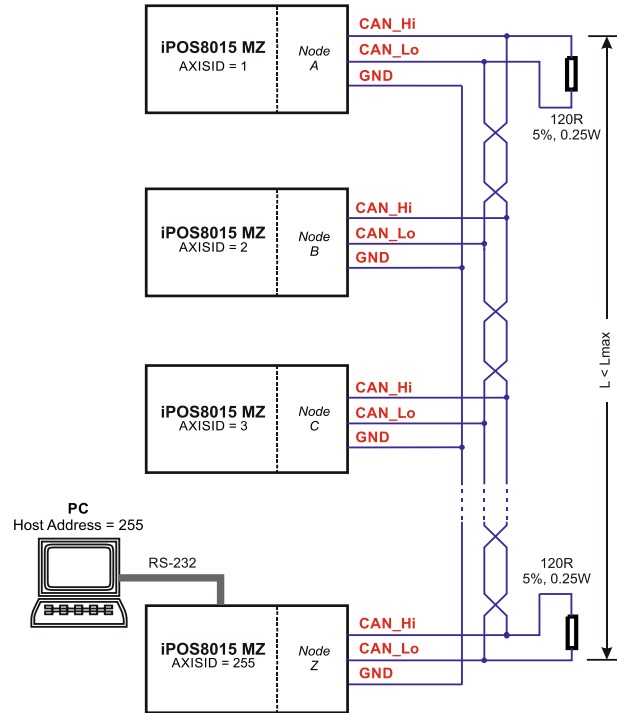

Figure 13.31. Multiple-Axis CAN network
- 1 The CAN network requires a 120-Ohm terminator. This is not included on the board. Figure 13.31 shows how to connect it on your network